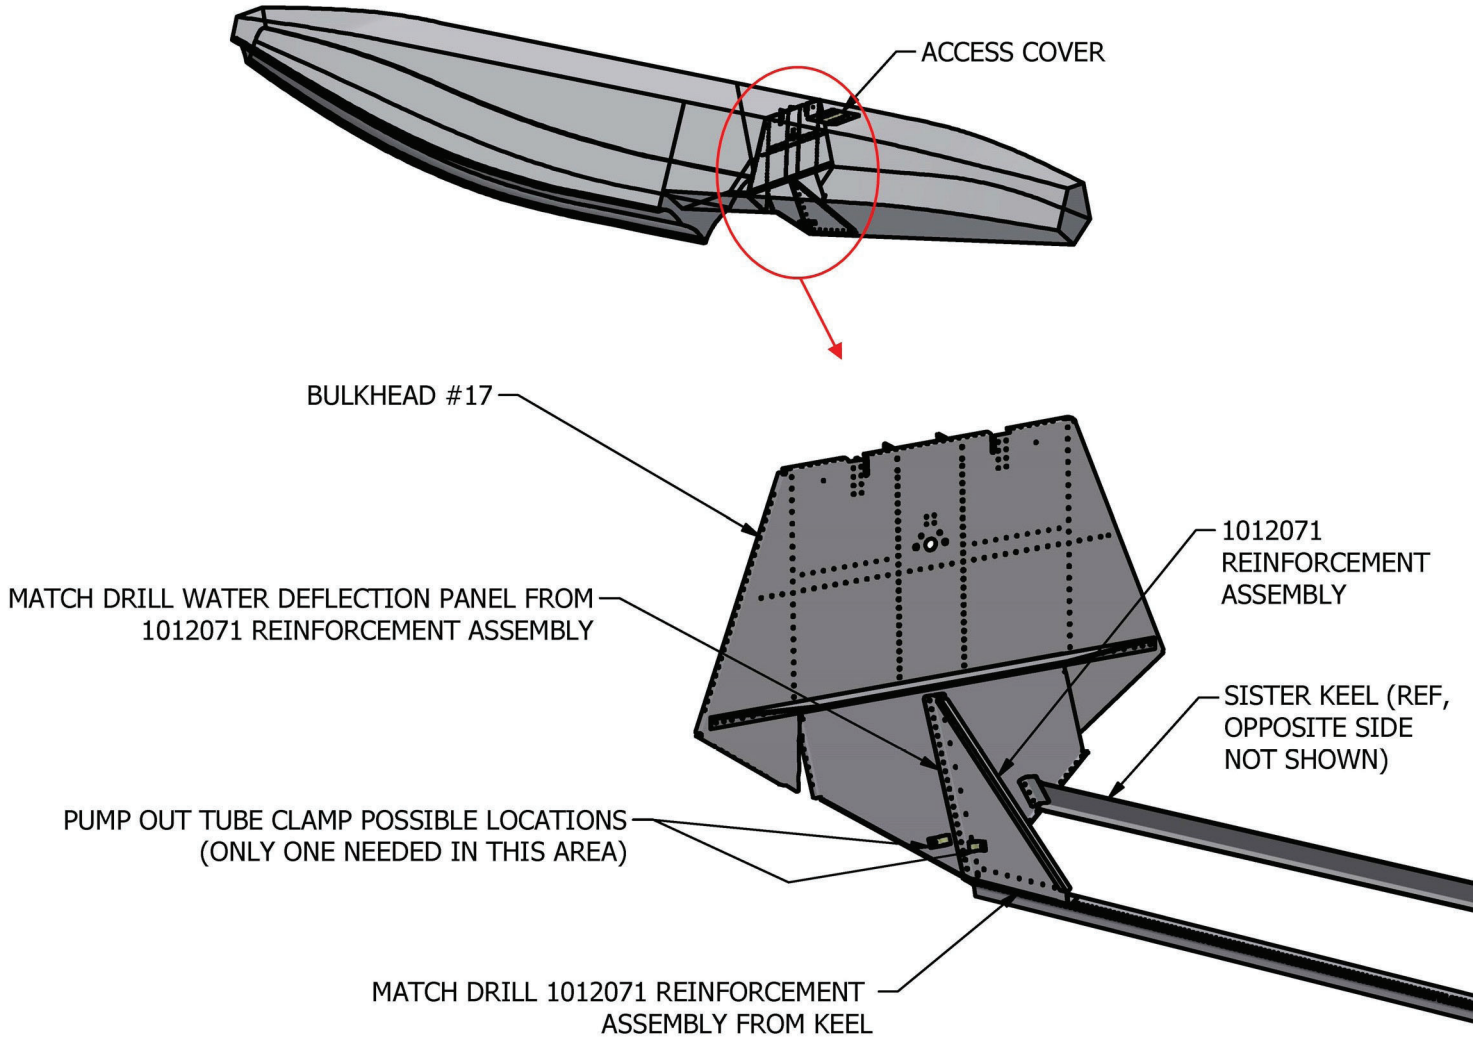

Figure 1
2. Remove top deck cover to gain access to bulkhead #17. See Figure 1.